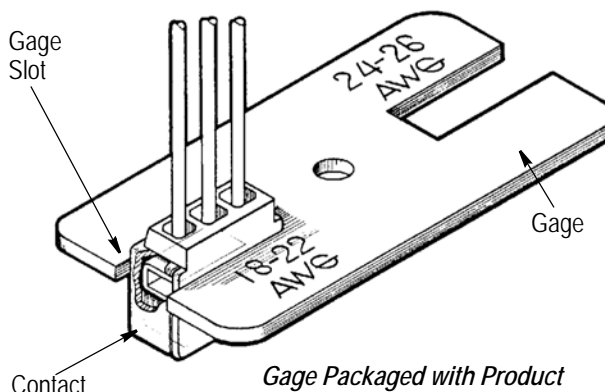

Figure 4
2. Check each connector by placing connector in gage so contact is aligned with gage slot as shown in Figure 4.